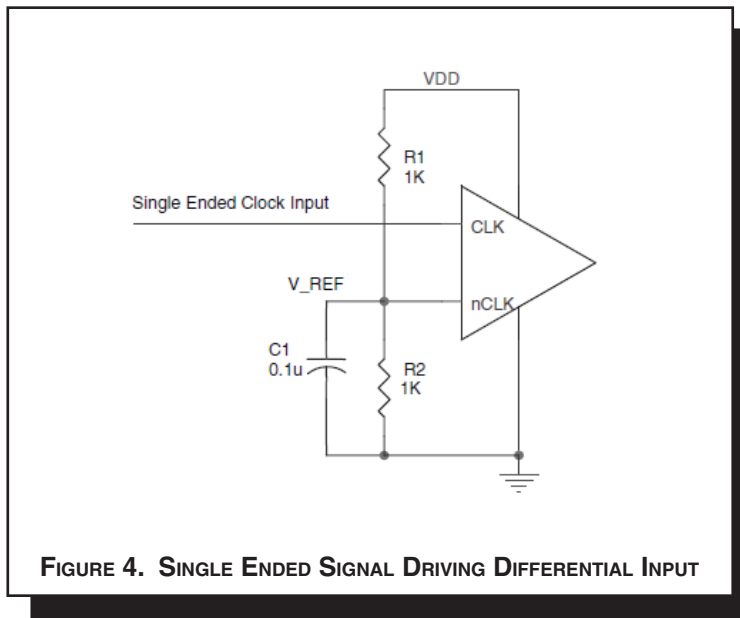

FIGURE 4. SINGLE ENDED SIGNAL DRIVING DIFFERENTIAL INPUT
*Figure 4* shows how the differential input can be wired to accept single ended levels. The reference voltage  $V_{REF} = V_{DD}/2$  is generated by the bias resistors R1, R2 and C1. This bias circuit should be located as close as possible to the input pin. The ratio